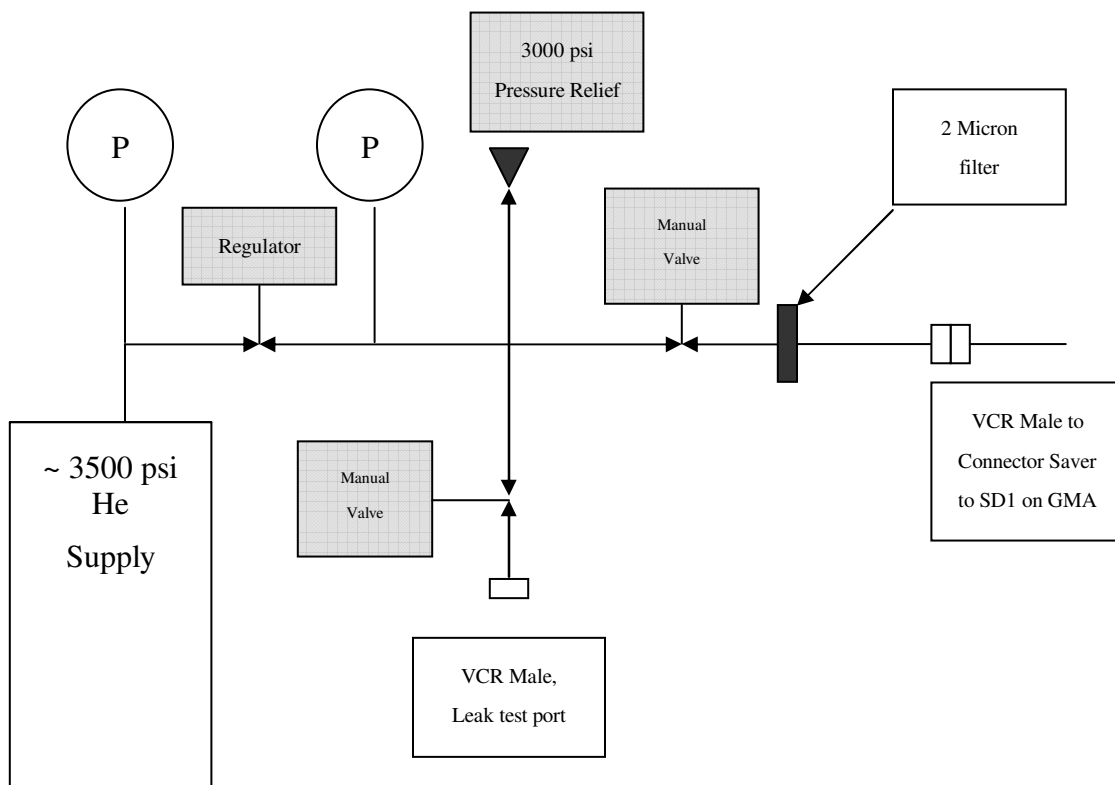

Fig. 1 Schematic of Helium gas supply manifold.
The pressure in any part of the GMA must never exceed the rated pressure of any individual component to withstand that pressure. The GSE equipment will incorporate a pressure relief valve to ensure that the pressure in the GMA or GSE will not exceed 3000 psi. See Fig. 1.
High Pressure Regulator Manifold for Helium 4	See Fig. 1
4.1.1 See Fig. 1. Attach regulator to He4 bottle and then attach He4 gas bottle line to SD1 through the connector saver.